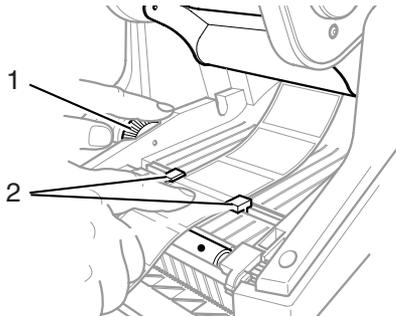

Figure 17, Alignment Guides
5. Thread the material under the print module, under the guides (**Figure 17, 2**) and forward through the slot in the control panel.
6. Turn the green dial on the left (**Figure 17, 1**) to adjust the guides so they just snug up against the labels. Do not tighten the guides enough to crimp the labels.